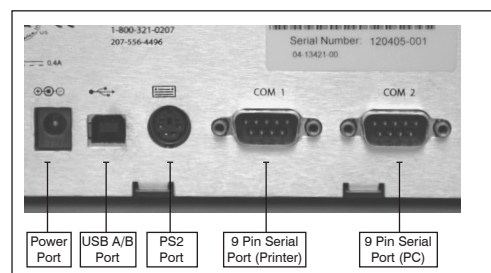

Figure 2: Back of the IDEXX SNAPshot DSR Reader
Setting up your SNAPshot DSR Reader is easy and takes only a few minutes. A PS/2 keyboard can be connected to the SNAPshot DSR Reader via the PS/2 port (see figure 2). Use the keyboard's Tab and Enter keys for navigation and the alphanumeric keys to enter lot, sample, and tech IDs.
3. Plug the power supply into the power port on the rear of the SNAPshot DSR Reader (see figure 2). Plug one end of the line cord into the power supply and the other into an AC-grounded outlet.